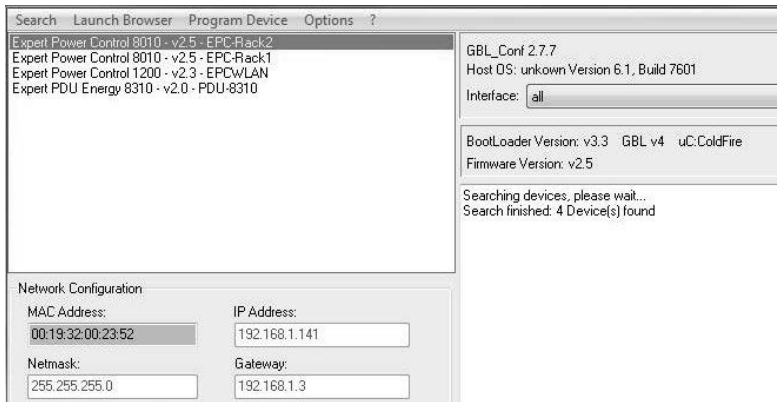

Fig. 2. All found devices in the configurations program GBL\_Conf.
- ① Open GBL\_Conf. All found devices in the network will now appear in the left window as shown in Fig. 2.
- ② Double-click on the device name. You will be forwarded automatically to the device’s web interface in your web browser.